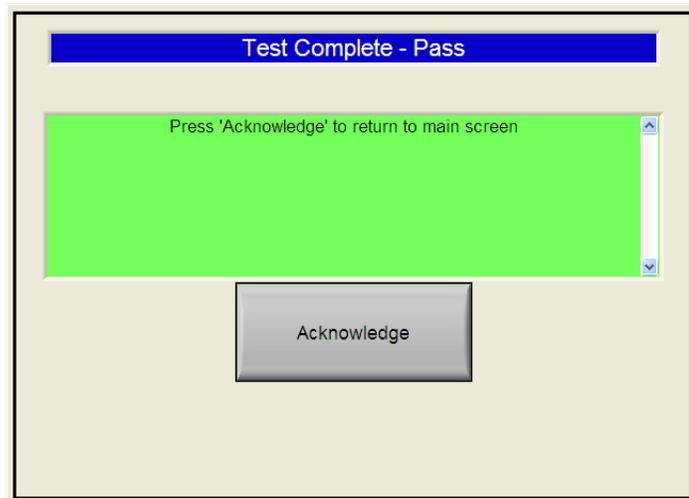

Figure 17 – Test Complete Popup
- The test complete popup display will appear (figure 17). This display will include pass/fail information.